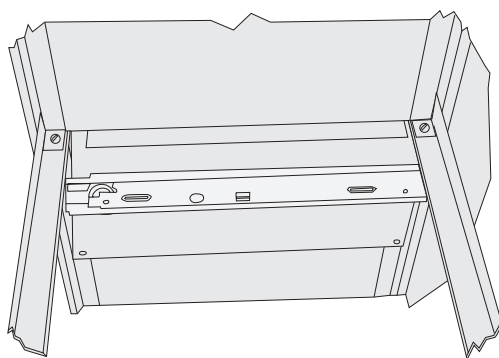
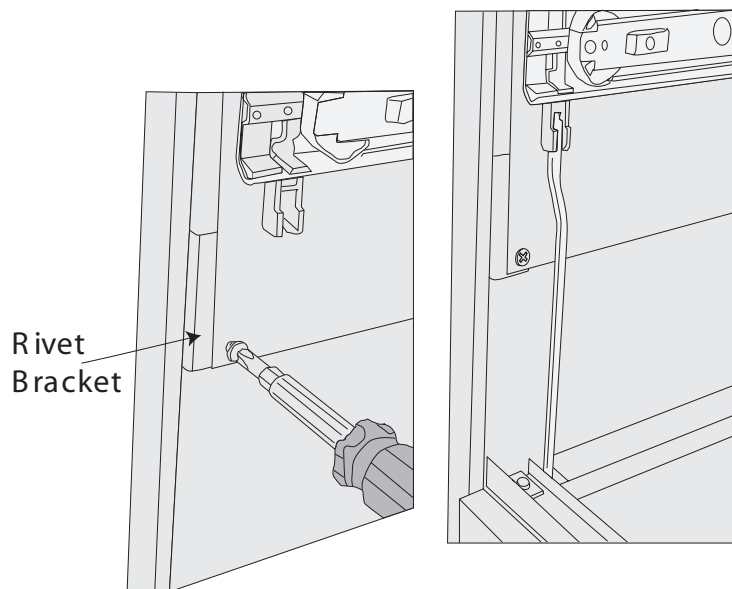

Figure 3
Figure 5
3. Drop the ears of the slide brackets into the top of the channel of the shelf supports and secure using #10-32 x 1/2 screws and #10 nuts. (see figures 3). If this is your second drawer or more, install the wire interlock rod between the slides on each side (see figure 5).